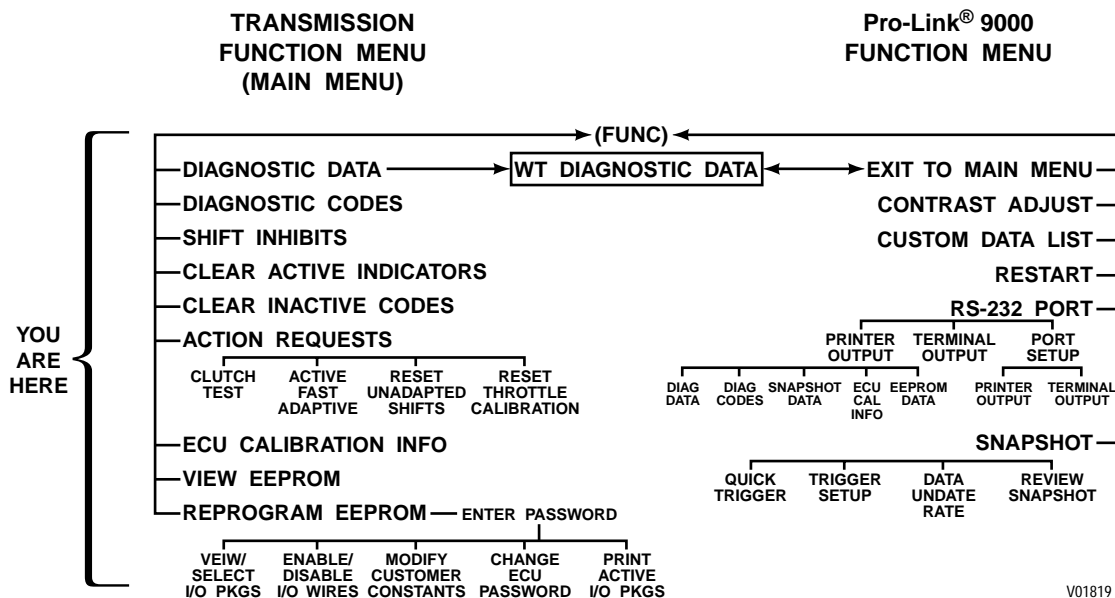

Figure N-1. Pro-Link® 9000 Menu Selections
5. Refer to Figure N-1 for a graphic representation of the Pro-Link® 9000 menu selections.